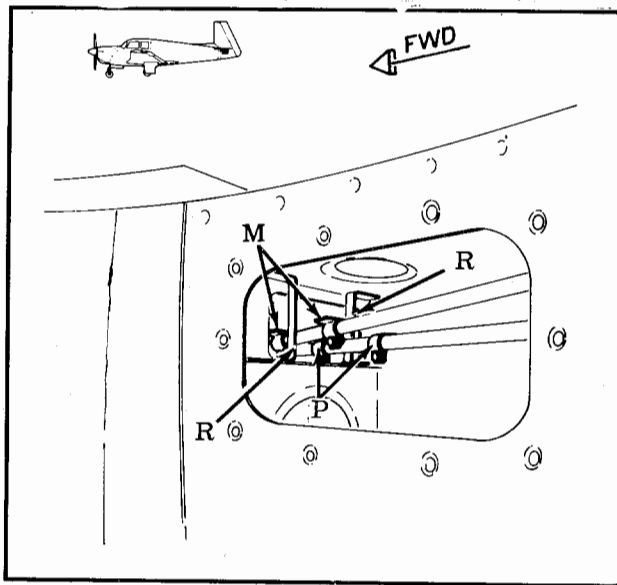

Figure 6-4. Rudder & Elevator Stop Adjustment
c. M20C & E to 690000: Set stops (P), Figure 6-4, in empennage stinger for elevator uptravel of $24^{\circ}+1^{\circ}$ and down travel of $10-1/2^{\circ}+1^{\circ}$ and F & G uptravel of $22^{\circ}+2^{\circ}$ and downtravel of $22^{\circ}+2^{\circ}$.
d. After stops are set rotate elevators thru full range of travel to assure solid contact with stops and that nuts and bolts heads clear stop limiter. Stop limiter may be bent to obtain correct movement (R), Figure 6-4.
h. Adjust rudder stops (M), Figure 6-4, so that rudder travel is $23^{\circ} + 10^{\circ}$ right and left.